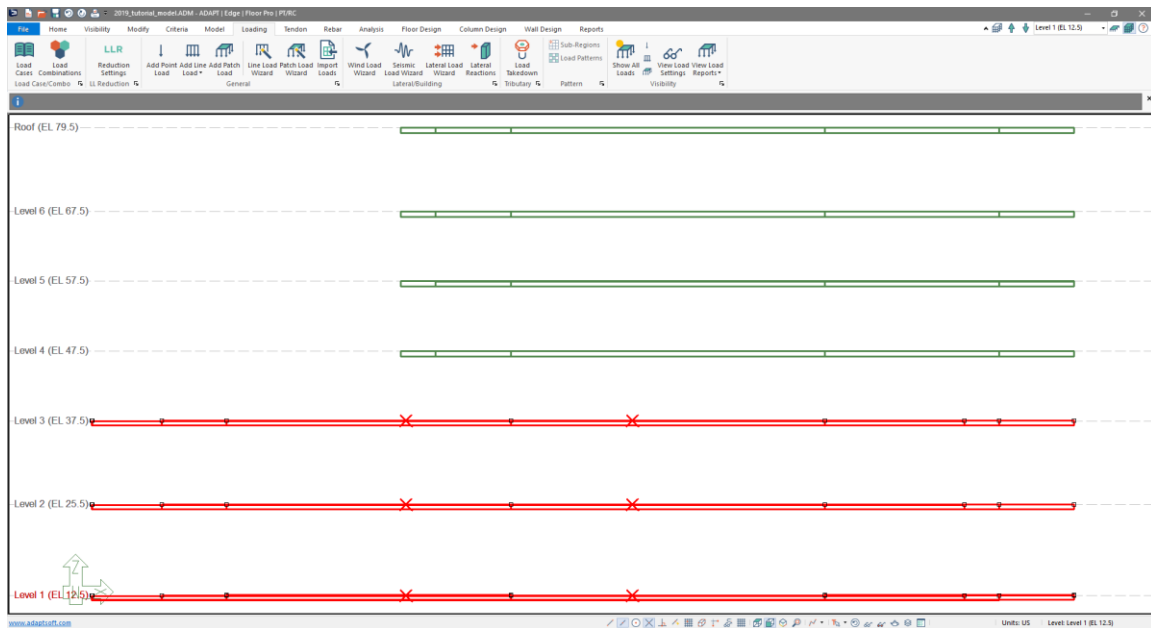

Figure 7-14
- Drag and select the Level 1 through Level 3 slabs. Once the slabs are selected, they should be highlighted in a red color as shown in **FIGURE 7-14**.